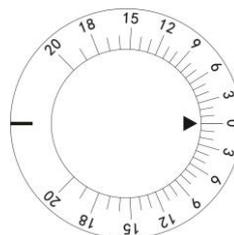
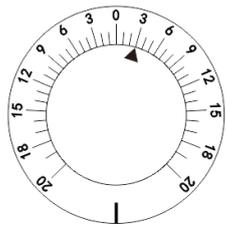

Fig.22
Fig.23
Turn rotary prism ② by holding its base to set it on the examination aperture. Turn prism rotation knob ① until the required prism power is set. What the black triangle arrow indicates is the current prism power. For example, prism power indicated in Fig.22 is 0, that in Fig.23 means base in 3Δ prism power, and that in Fig.24 means base up 3Δ prism power.